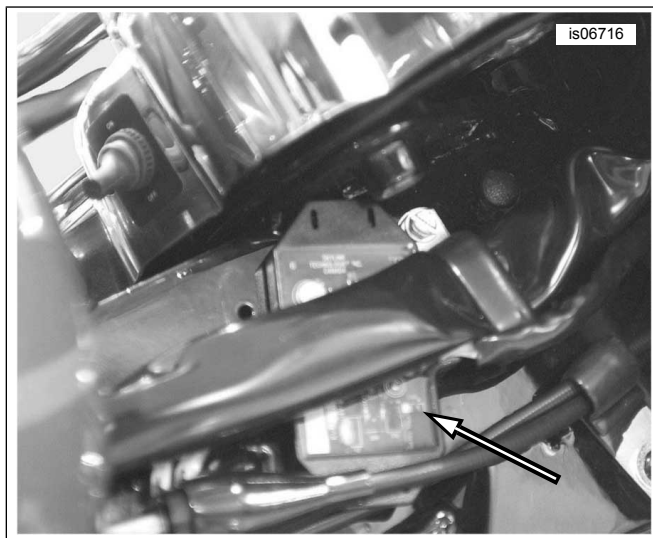

Figure 10. Transmitter Mounting Near Fork Tube (2013-Earlier FLHR)
FLHR Touring/ FLRT Trike (all)	Right side of frame near fork tube, inside nacelle, with foam pad (remove headlamp first) (See Figure 10.).
3. See Figure 10. Mount the transmitter to the right side of the frame near the fork tube.